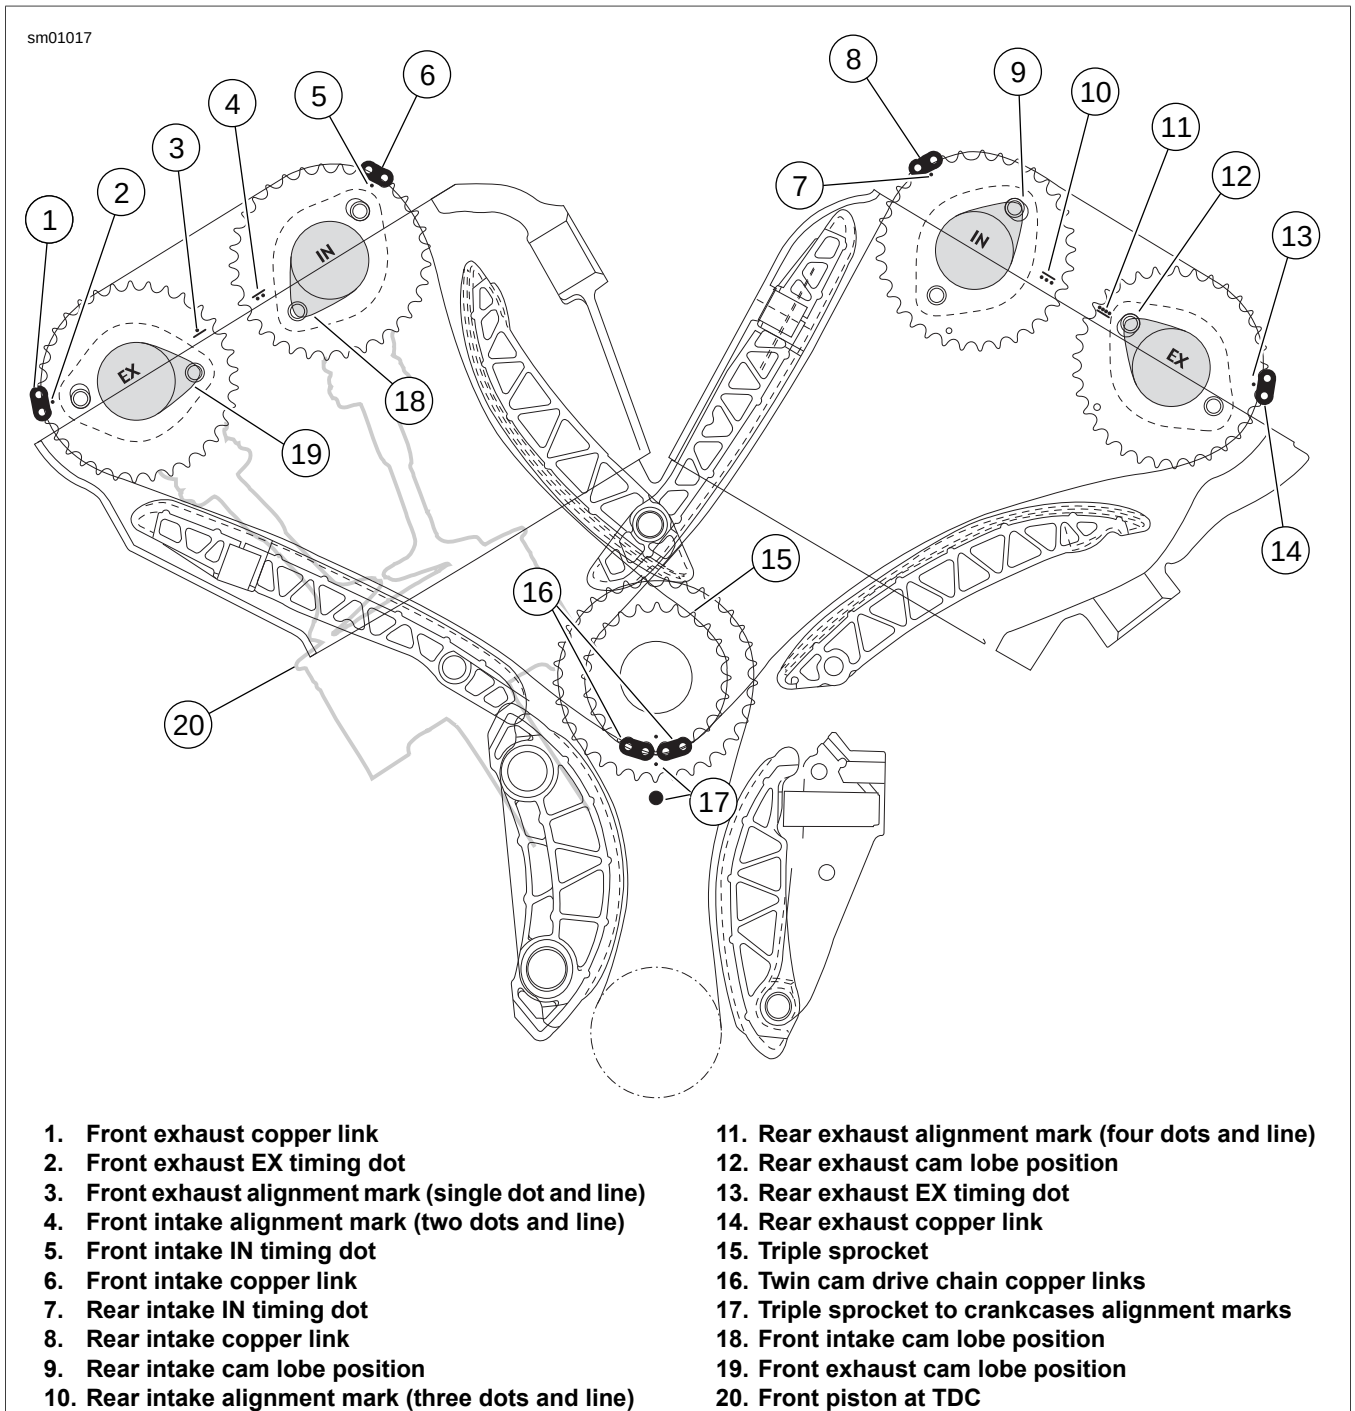

Figure 3-44. Cam Drive Timing Marks (secondary cam chain tensioners are not shown)
5. See Figure 3-44. Insert rear cylinder cam drive chain down from the rear head. Wrap chain around middle row of triple sprocket teeth with the copper chain links (16) straddling the triple gear timing mark.
7. See Figure 3-44. Insert rear exhaust cam into cylinder head and align copper link (14) straddling the single dot timing mark labeled as EX (13).
8. Insert rear intake cam into cylinder head and align copper link (8) straddling the single dot timing mark labeled IN (7).
9. See Figure 3-44. Verify that:
- a. The single copper link (8) on the cam drive chain straddles the IN single dot (7) on the intake cam sprocket.
- b. The single copper link (14) on the cam drive chain straddles the EX single dot (13) on the exhaust cam sprocket.
- c. The three dot timing line (10) on the intake cam sprocket is aligned with the four dot timing line (11) on the exhaust cam sprocket.
16. See Figure 3-44. Insert front cylinder cam drive chain down from the front head. Wrap chain around front row of triple sprocket teeth with the copper chain links (16) straddling the triple gear timing mark.
18. Insert front exhaust cam into cylinder head and align copper link (1) straddling the single dot timing mark (2).
Compare lobe positions of each cam shaft to Figure 3-44. If timing marks are correct but camshaft lobes are incorrect, the drive sprocket could be installed incorrectly on the camshaft.